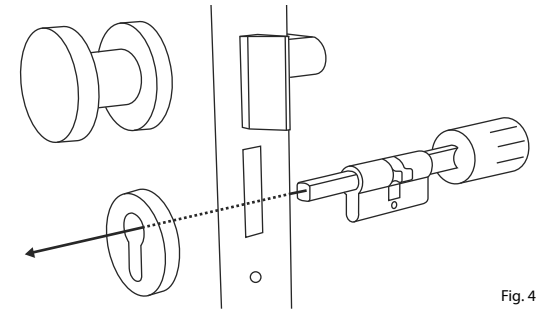

Fig. 4
- 4 From inner side the door, push the cylinder into the mortise lock (Fig. 4).